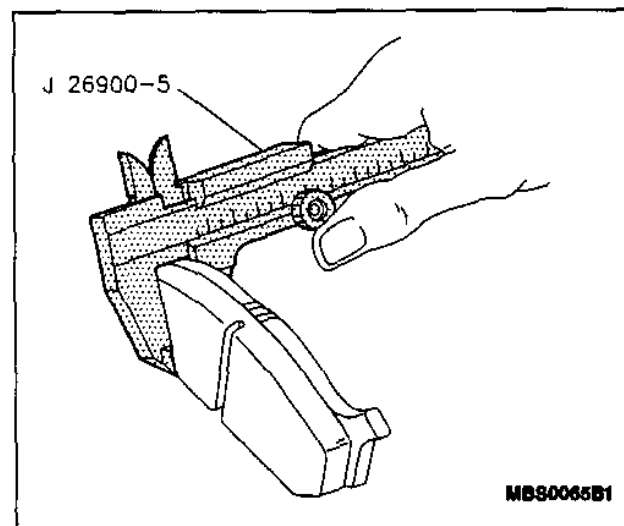

Figure 10—Measuring Pad Thickness
- Brake pads for wear. Using a J 26900-5, measure the thickness of the brake pad and backing plate (Figure 10). If pad thickness does not fall within specification, replace them. On 2-door models, the minimum pad thickness is 6 mm (0.240 in.). On 4-door models, the minimum pad thickness is 7.5 mm (0.295 in.).